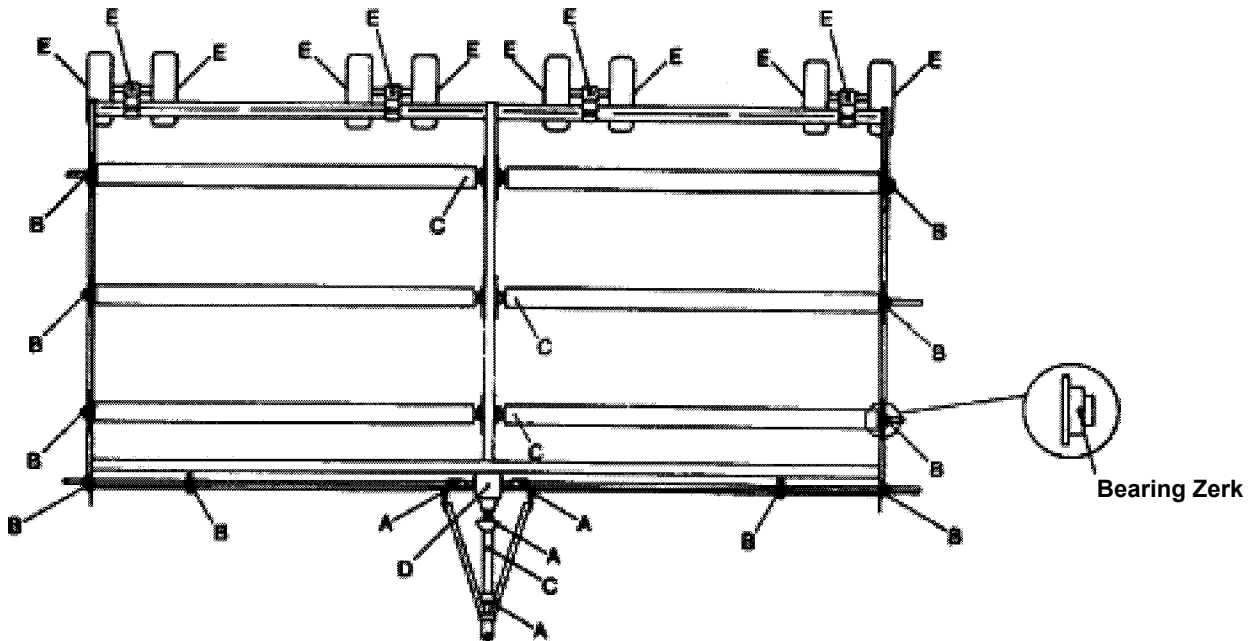

Figure 24 Lubrication Diagram
The period recommended is based on normal operating conditions. Severe or unusual conditions may require more frequent lubrication or oil changes. Refer to Figure 24 for details.
1. Lubricate PTO driveline, position A, Figure 22 and Figure 24.